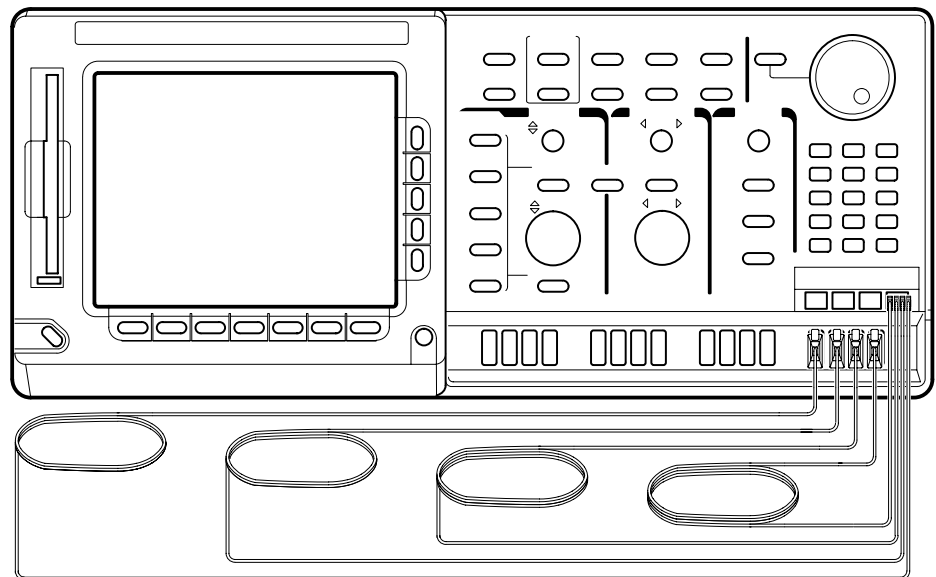

Figure 1-3: Probe Connections for the Examples
2. Connect a probe to each of the Channel 1 through Channel 4 inputs using four of the probes supplied with the logic scope. (See Figure 1-3.)
3. Connect the input of the four probes to any four of the 16 probe calibration outputs. (See Figure 1-3). Be sure to connect so the positive terminal of the each probe (indicated by three ribs at the end of the probe tip) goes to the positive (upper) terminal of the probe calibration output.